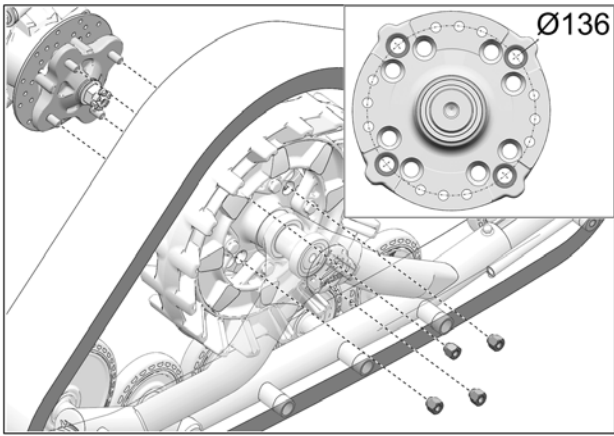

Fig. 9
8. Secure undercarriage to rear hub using the vehicle's own lug nuts. Use bolt circle Ø136mm. See Fig. 9